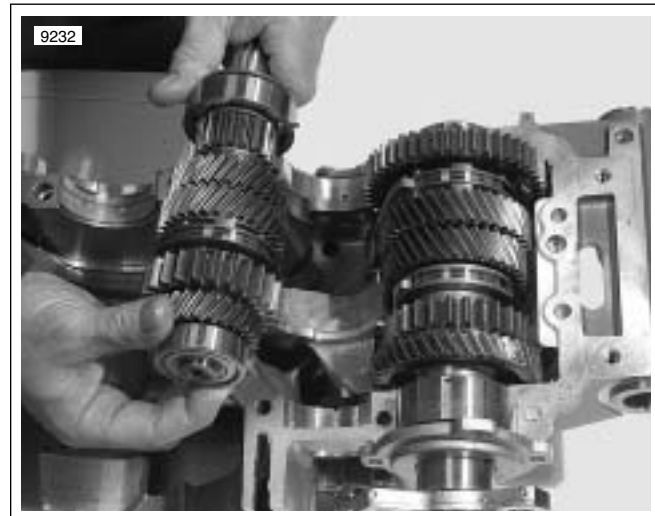
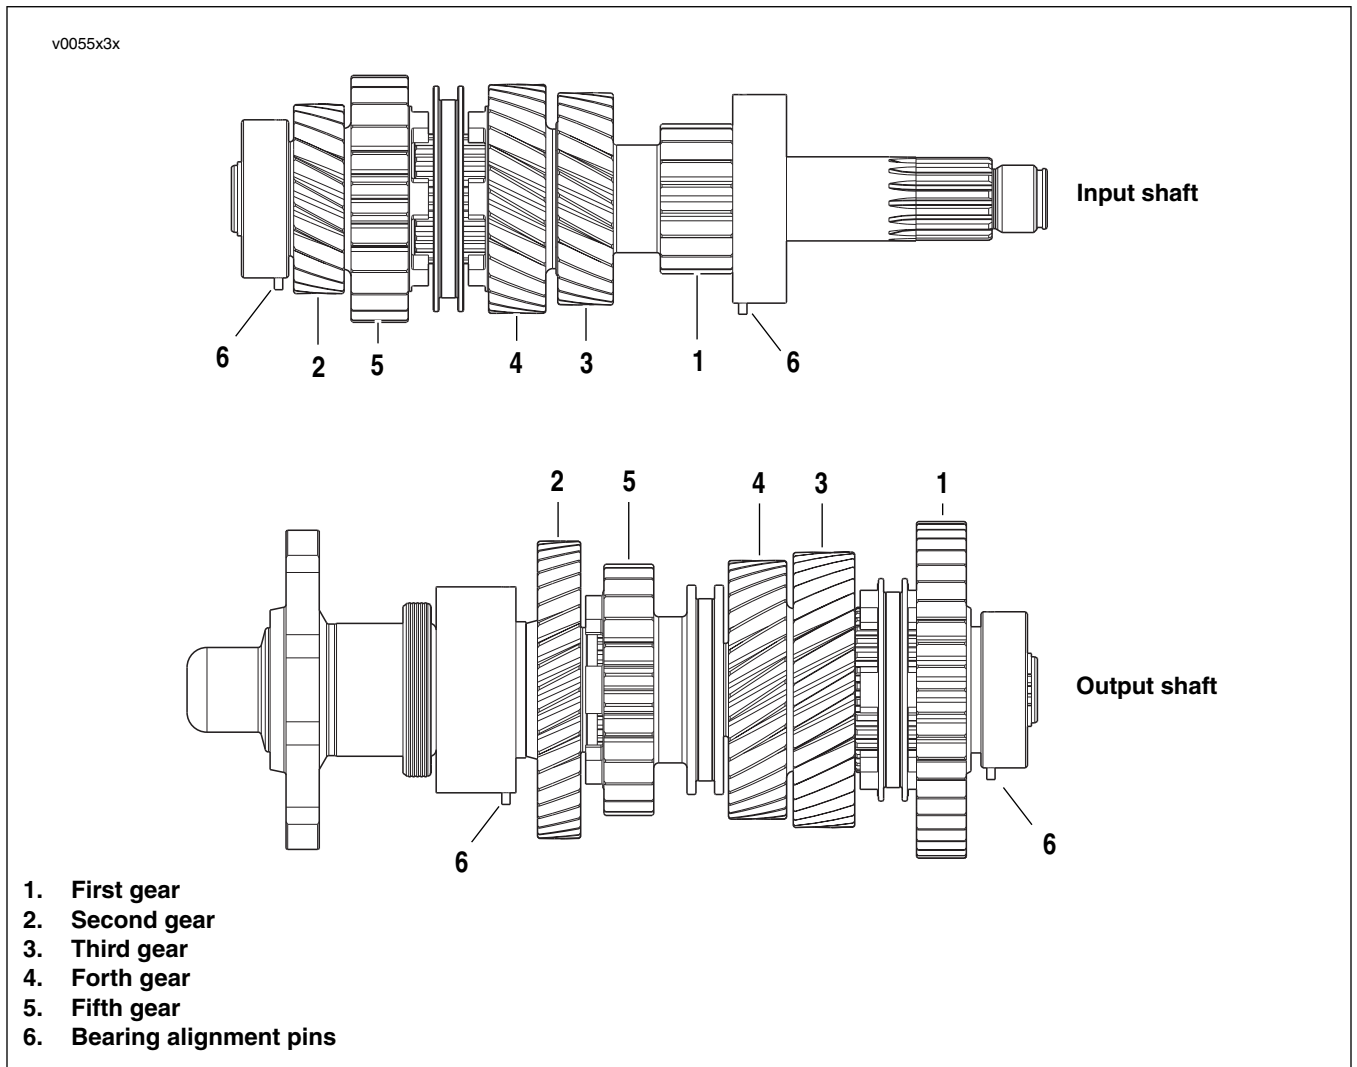
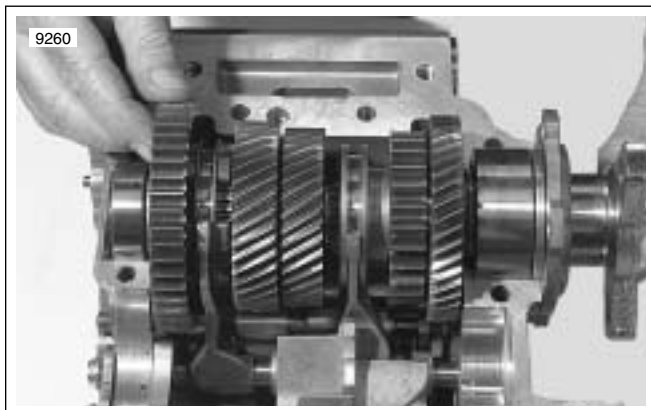
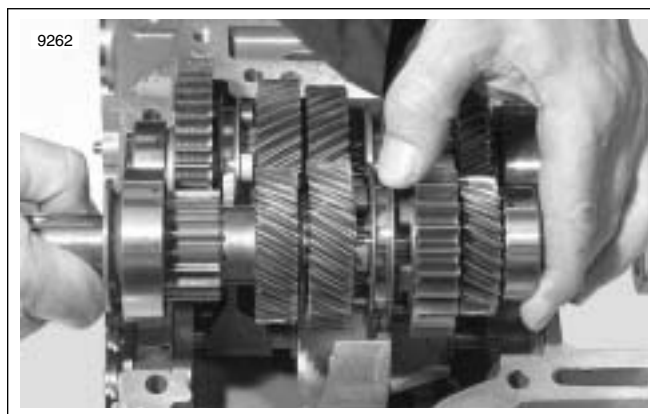

Figure 3-121. Input Shaft
Figure 3-123. Transmission Input Shaft and Output Shaft Assemblies
Figure 3-133. Output Shaft
Figure 3-135. Input Shaft
20. See Figure 3-121. Remove input shaft. See Figure 3-123. Note the alignment pins (6) on the bearing outer race. If the pins are damaged or missing the bearing must be replaced.
23. See Figure 3-123. Note the alignment pins (6) on the bearing outer race. If the pins are damaged or missing the bearing must be replaced. See 7.3 OUTPUT SHAFT.
6. See Figure 3-133. and Figure 3-123. Carefully lower output shaft into case. Inspect to be certain that the alignment pins (6) on the bearing outer race are in the case holes.
8. See Figure 3-135. and Figure 3-123. Carefully lower input shaft into case. Inspect to be certain that the alignment pins (6) on the bearing outer race are in the case holes and shifting forks are in the correct location.